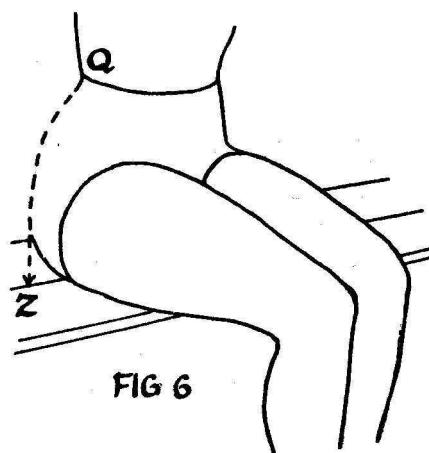

FIG 6
17. The **WAIST TO CROTCH** measurement (D-Y) is a difficult one to take exactly. The measurement is best taken directly from the chart for the appropriate size, and adjusted later in the fitting, if necessary. Figure 6 shows how the crotch depth measurement may be taken when the person is seated, from the side seam to the seat level. (Q-Z). All the crotch depth measurements, no matter how taken, are to be considered the **FRONT CROTCH DEPTH**. The back crotch depth and the side crotch depth should follow the same proportions as the skirt length measurements.